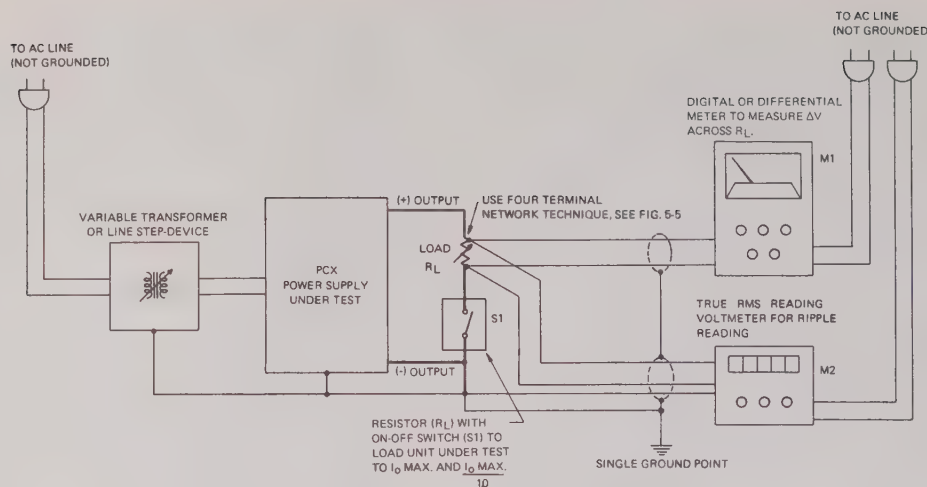

FIG. 5-3 TEST SET-UP FOR VOLTAGE REGULATION MEASUREMENTS
- c) LINE REGULATION MEASUREMENT. Set up test circuit as shown in FIG. 5-3. Measure line regulation by varying the AC line between the specified limits and noting the deviation (ΔE_O) on the meter across the output. Line regulation is specified in percent of the maximum rated output voltage:
- d) **LOAD REGULATION MEASUREMENT.** Retain the test set-up shown in FIG. 5-3. Set the AC input to 115 V AC. Measure load regulation by opening and closing the load switch (S1) and noting the deviation ΔE_O on M1. Load regulation is specified in percent of the maximum rated output voltage:
- e) **RIPPLE MEASUREMENT.** Ripple is specified in absolute values (rms). Careful wire-dressing and shielding, as well as good AC grounding are of the utmost importance to get valid results (Use single ground point as shown in FIG. 5-3).